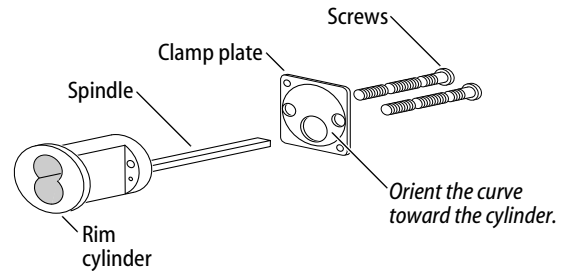

Figure 20 Rim cylinder components
- 3 Orient the cylinder and clamp plate as shown in Figure 20. From the inside of the door, secure the cylinder using the clamp plate and mounting screws.